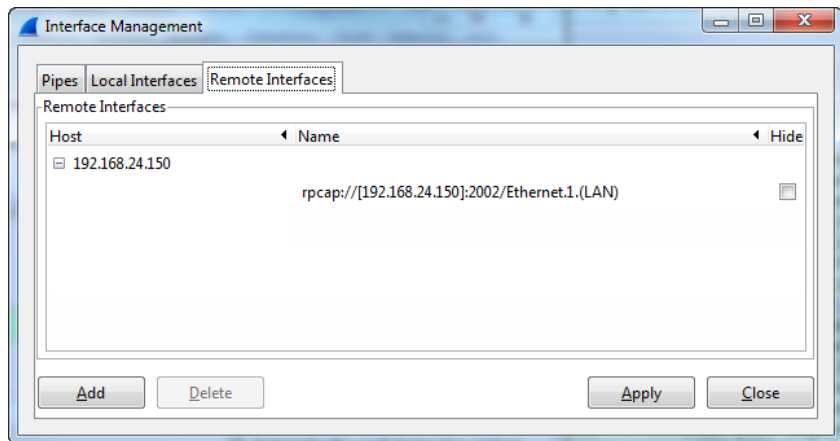

Figure 170: Added new interface to Wireshark.
7. If the connection to the device was established successfully, the **Remote Interfaces** list will be updated with information about all capture ports available on the device as shown in Figure 170.